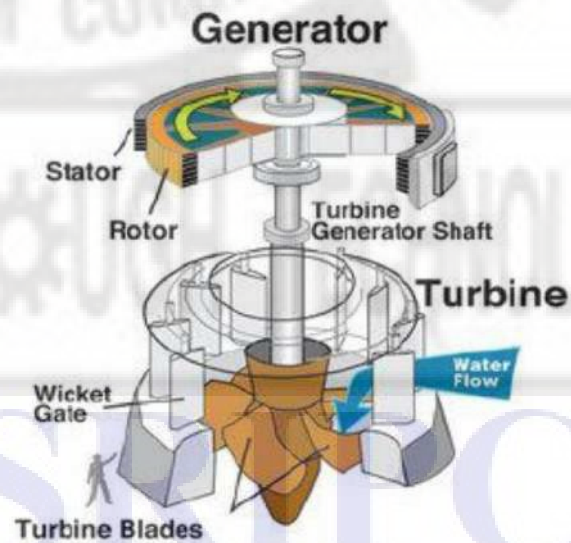

Fig. 3.7
- ❖ This Reaction Turbine operates due to the pressure difference in the inlet and outlet of turbines as shown in fig.3.7.